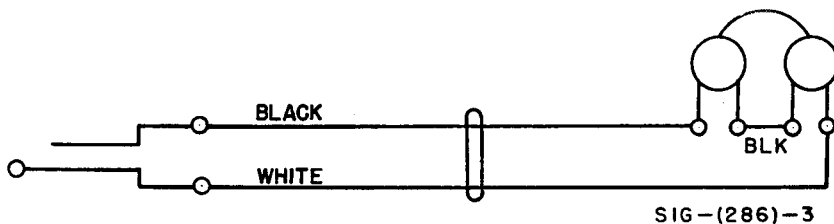

Figure 3. Headset H-113/U, schematic diagram.
6. *Reassembly.* Reverse the procedure outlined in (1) through (10) above. When connecting the cord assembly (17) to the plug
body (15), connect the white lead to the tip terminal, and the black lead to the sleeve terminal (fig. 3).